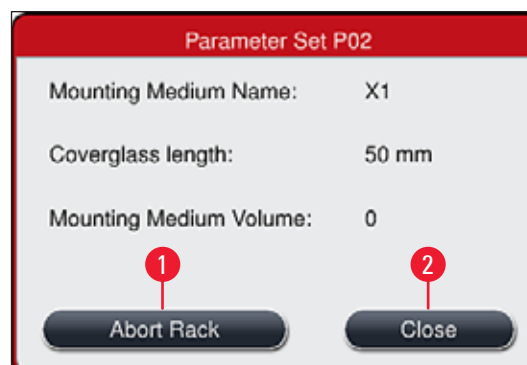

Fig. 79
2. An overview appears of the rack for which the process is being canceled (→ Fig. 79).